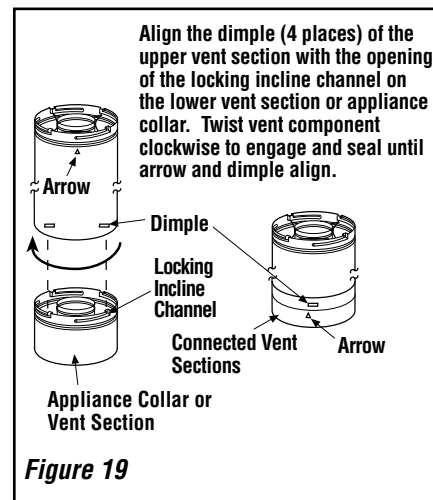

Figure 19
B. Attach vent components to appliance - **Secure Vent** SV4.5 direct-vent system components are unitized concentric pipe components featuring positive twist lock connections (see **Figure 19**).
To attach a vent component to the appliance collar, align the dimpled end over the collar, adjusting the radial alignment until the four locking dimples are aligned with the inlet of the four inclined channels on the collar (refer to **Figure 19**). Push the vent component against the collar until it fully engages, then twist the component clockwise, running the dimples down and along the incline channels until they seat at the end of the channels. The unitized design of the **Secure Vent™** components will engage and seal both the inner and outer pipe without the need for sealant or screws. If desired, a #6 x 1/2" screw may be used at the joint, but is not required as the pipe will securely lock when twisted.
Push the vent component against the previous section until it fully engages, then twist the component clockwise running the dimples down and along the incline channels until they seat at the end of the channels. **This seating position is indicated by the alignment of the arrow and dimple as shown in Figure 19.**
Secure Vent SV4.5 direct-vent system components are unitized concentric pipe components featuring positive twist lock connection, (refer to **Figure 19** on **Page 14**). All of the appliances covered in this document are fitted with collars having locking inclined channels. The dimpled end of the vent components fit over the appliance collar to create the positive twist lock connection.
D. Attach vent components to appliance - To attach a vent component to the appliance collar, align the dimpled end over the collar, adjusting the radial alignment until the four locking dimples are aligned with the inlets of the four incline channels on the collar (*see Figure 19 on Page 14*).
Push the vent component against the previous section until it fully engages, then twist the component clockwise running the dimples down and along the incline channels until they seat at the end of the channels. **This seating position is indicated by the alignment of the arrow and dimple as shown in Figure 19 on Page 14.**
The elbows feature a twist section to allow them to be routed about the center axis of their initial collar section to align with the required direction of the next vent run element. **Twist elbow sections in a clockwise direction only so as to avoid the possibility of unlocking any of the previously connected vent sections (see Figure 19 on Page 14).**